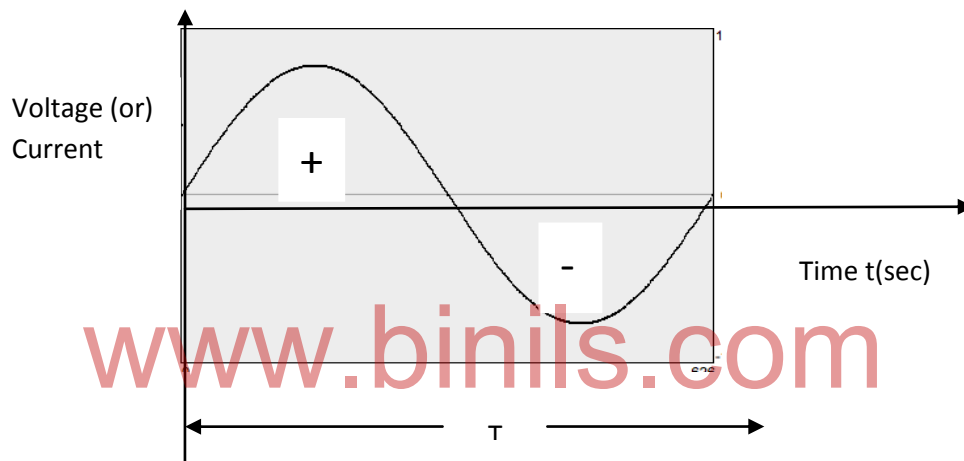

Fig.2.1
- ❖ The sinusoidal waveform changes its magnitude and direction with time. If we start at time  $t = 0$ , the wave goes to a maximum value and returns to zero, and then decreases to a negative maximum value before returning to zero as shown in Fig.2.1.